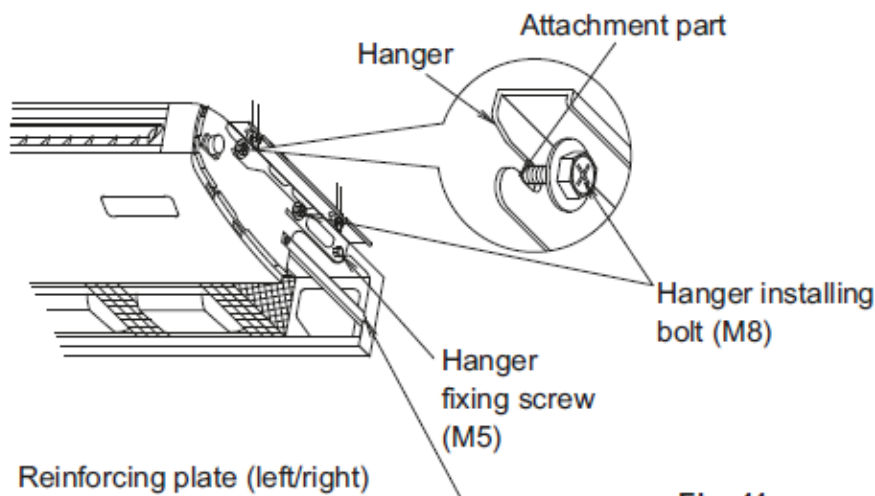

Fig. 11
- Lift up the indoor unit, slide from the front and put the hanger installing bolt (M8) into the securely for temporary hanging. (Refer to Fig. 11)
- Tighten the hanger fixing screws (M5) at 2 places, which were removed, as they were before. (Refer to Fig. 11). It is necessary to prevent misalignment of the indoor unit.
- Tighten the hanger installing bolts (M8) at 4 places properly. (Refer to Fig. 11)